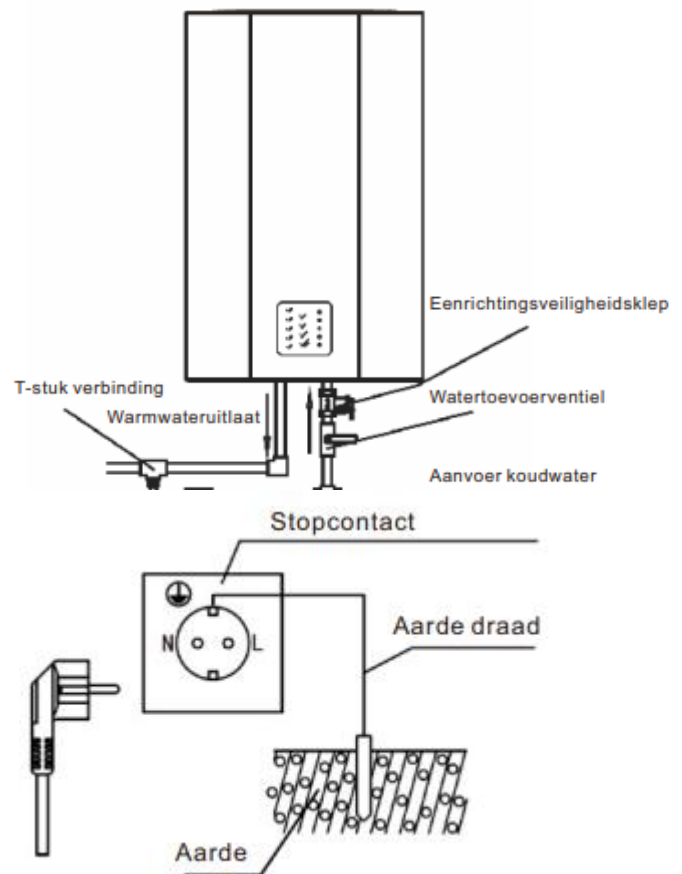

Figure 5
- 9) After confirming that the ratings of electricity meters, wires, switch sockets and fuses in the power system meet the energy consumption requirements of this product, connect a separate socket in a suitable place to supply power to the electric boiler (Fig. 5). The installation height of the socket from the ground should not be less than 1.8m.